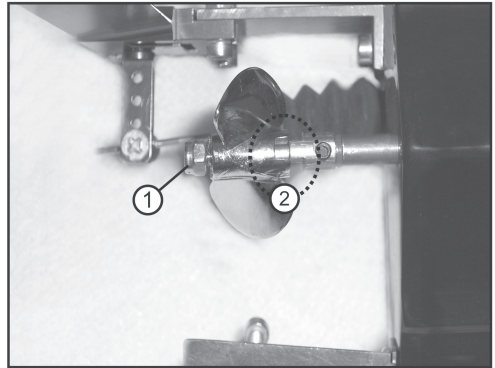

Figure 7
- Remove the lock nut with a suitable tool (not included) (figure 7, item 1). To remove the nut, turn it counter-clockwise to the left.
- Install the new ship's propeller on the shaft so that the grooves of the ship's propeller latches in the grooves of the drive shaft (figure 7, item 2).